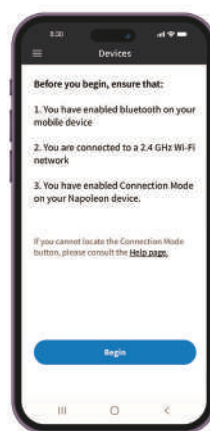

Fig. 7
8. Accept the permissions. (Fig 7)